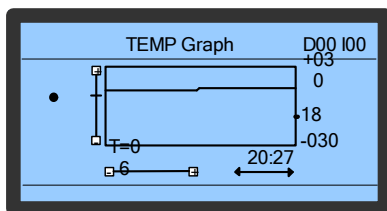

Figure 5-13 Temperature graph interface
1. Select **Graph Menu -> TEMP** to enter the **TEMP** submenu, as shown in Figure 5-13.